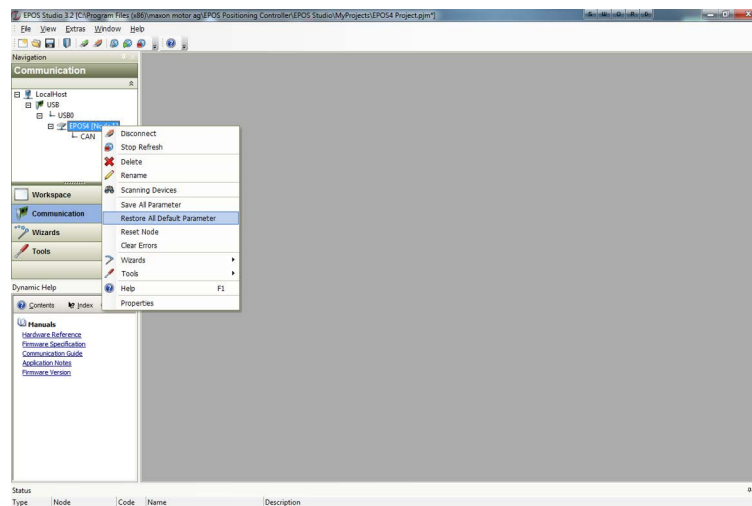

Figure 8-160 Adjustment of SSI commutation offset value | Restore all default parameters
- 6) If you are not quite sure what parameters are set, execute the command «Restore all default parameters» (→Figure 8-160) before continuing.